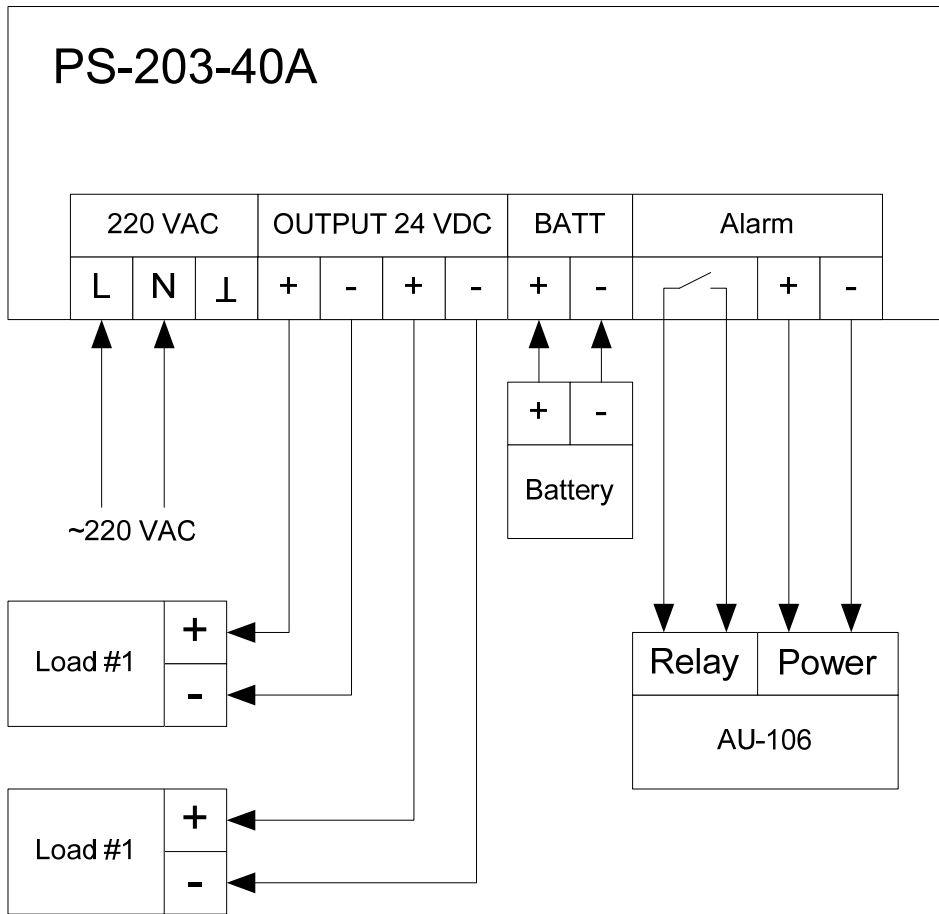

Figure 2. The PS-203-60A connection diagram
2) Connect cables of external devices and power supply sources to the PSU terminals as shown in Fig. 2.